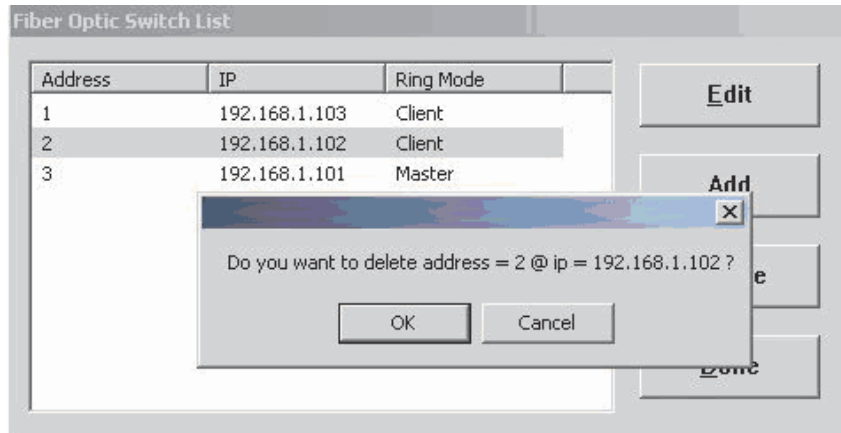

Figure 39
3. A message box displays as shown in Figure 39 to confirm the deletion.